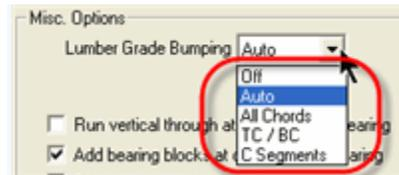

Figure-08
- ❖ Multiple option selection choices, such as when a toggle option is opened and you see a selection menu. For example, when you open the *Lumber Grade Bumping* toggle, you see: **Off**, **Auto**, **All Chords**, **TC/BC**, and **C Segments** in the selection menu (*Figure-08*).